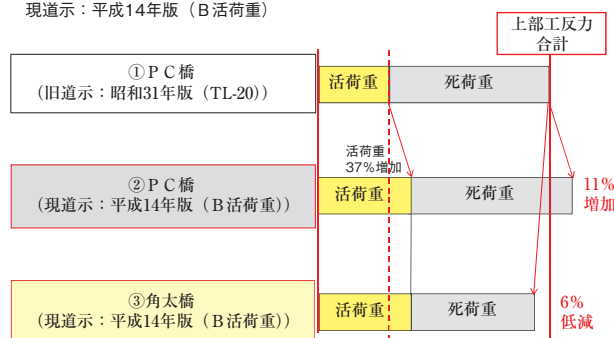

図4 角太橋とPC橋の上部工反力比較
2) 軽量(死荷重軽減・図4参照)
Fig. 4 comparison of reaction force between kakutabashi and PC slab bridge